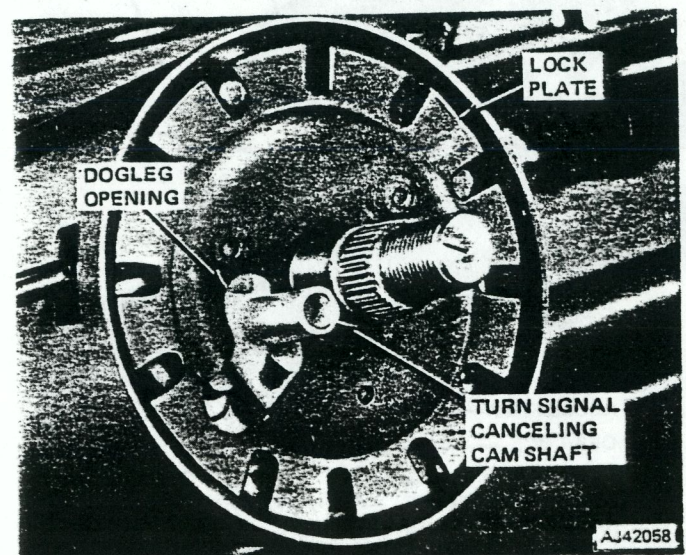

Fig. 2J-34 Canceling Cam and Lock Plate Position
(25) Install replacement steering shaft snap ring on sleeve of Lock Plate Compressor Tool J-23653 and install tool on steering shaft (fig. 2J-25).